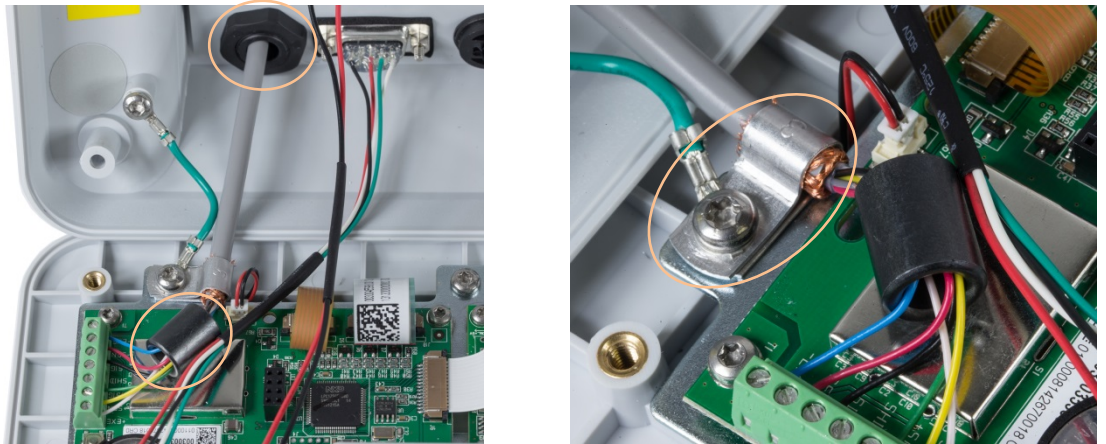

Figure A-23: Analog Load Cell Cable Ferrite Installation and Chassis Grounding, IND231
1. The load cell cable enters the housing through the cable gland indicated in Figure A-23.
4. The grounding clip supplied with the terminal is used to connect the exposed shield (Figure A-22) to the metal mounting plate using the enclosure hinge wire attachment screw, as shown in Figure A-23.